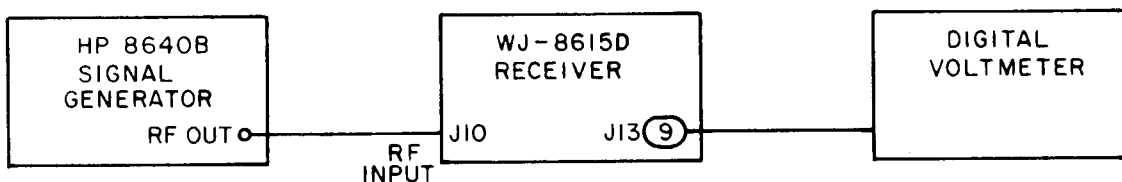

Figure 4-29. Log Video Alignment, Equipment Connections
- 17) Reinstall the modules removed in Step 1: A1A13, A1A12, A1A11, A1A10 and the Tracking Preselector (if present) unsolder the 50Ω load from XA11 and connect the equipment as illustrated in **Figure 4-29**.